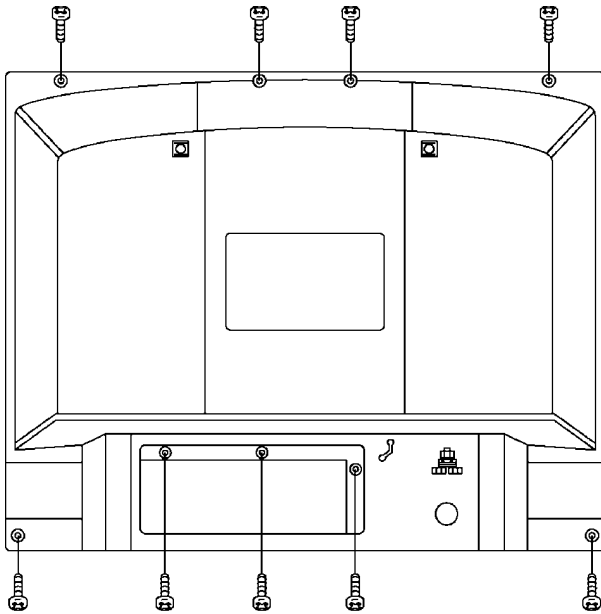

Fig. 1
1.3. Leakage Current Hot Check (See Fig. 1)
1. Remove the 9 screws as shown in Fig. 1.